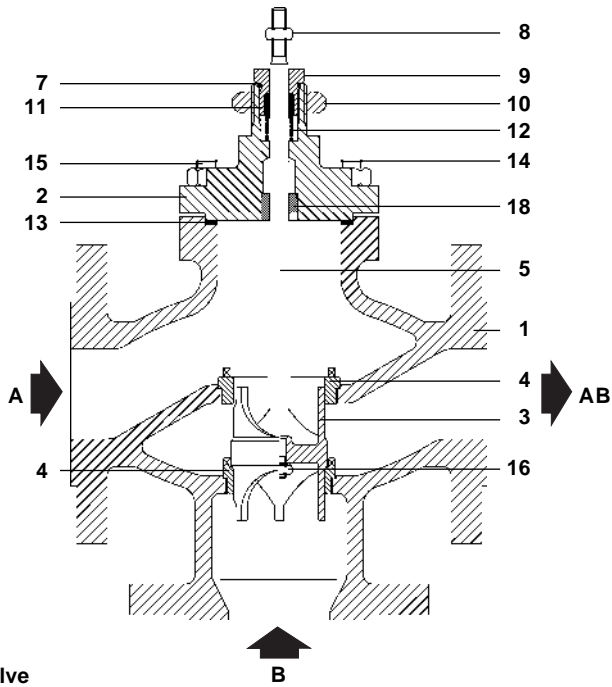

Fig. 1 Mixing valve
4.2.1 Procedure for renewing PTFE chevron gland seals (Refer to Figs. 1, 2 and 4)
4.2.2 Procedure for renewing graphite gland seals (Refer to Figures 1, 2 and 5):